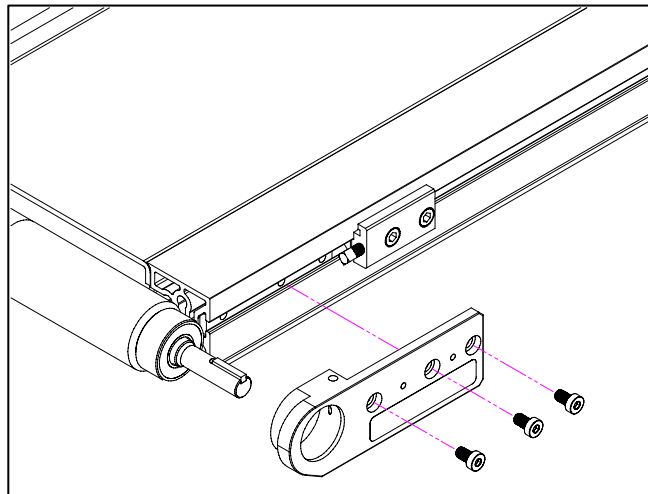

Figure 2
c. Remove the three M6 Low Head Cap Screws in the bearing Block with an Allen Wrench and slide the bearing plate off of the Drive Pulley's outer bearing diameter. Ensure the Drive Pulley's bearings or inner diameter of the bearing plate do not get nicked or gouged, as this may complicate the installation of new bearings (**Figure 2**).